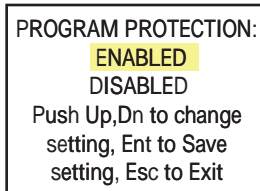
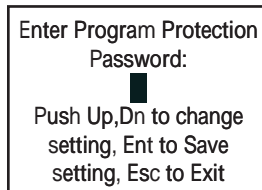

Figure 8: Program Protection Screen
Figure 9: Program Protection Password Screen
If the PP password is set to any value more than Zero, the firmware will prompt with “Enter Program Protection Password” (see **Figure 9**).
In order to get access to “Change Program Protection (PP) Password” menu, Program Protection must be disabled. If PP password is set to Zero (Disabled), entering PP Password is not required and PP can be disabled from “Program Protection” menu (see **Figure 8**). If PP Password is set to any value more than Zero, the firmware will prompt with “Enter Program Protection Password” (see **Figure 9**). The user must enter a program protection code (up to 3 digits). If the PP password is lost or forgotten, contact the factory or your distributor.